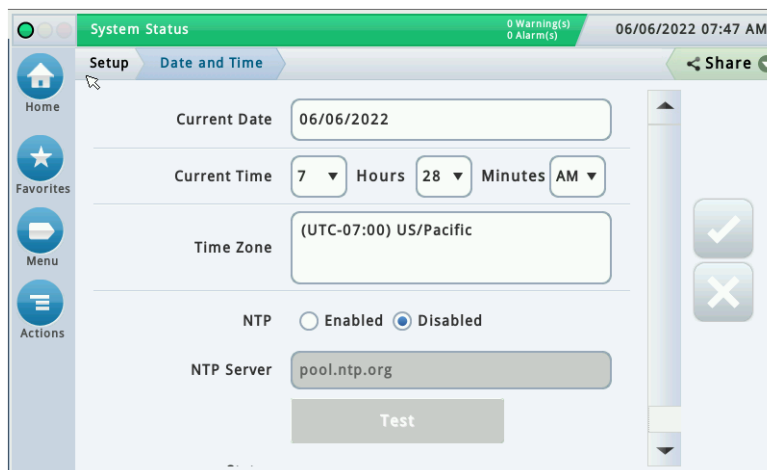

Figure 2. Date and Time Setup Screen
1. Touch Menu>Setup>Date and Time (see Figure 2).
3. Ensure the Time Zone entry is **(UTC-07) US/Pacific** as shown in Figure 2.